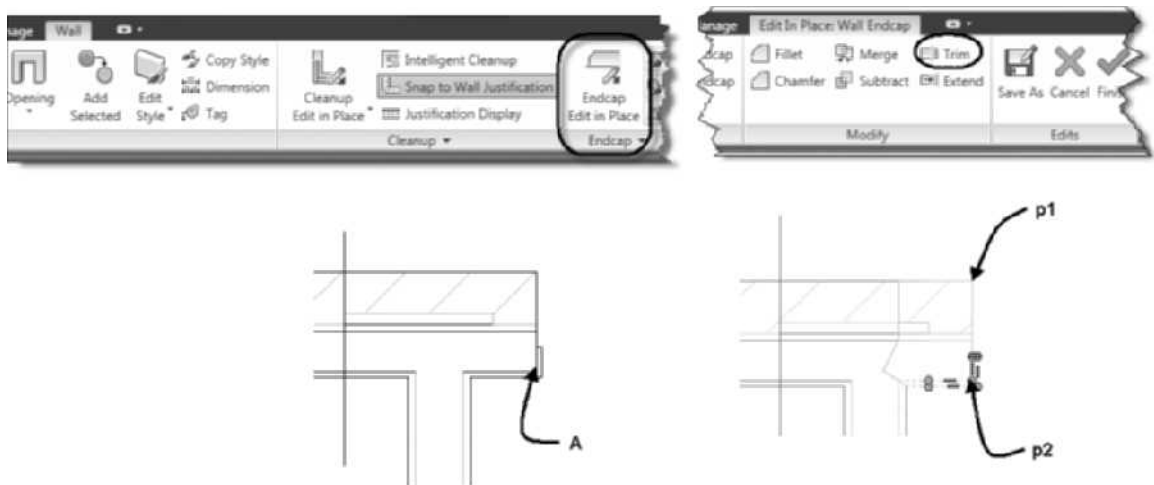

FIGURE 3.58 In-Place Edit of wall endcap style new
18. Move the cursor to point A and click to display the grips as shown in Figure 3.58. Choose Trim from the Edit In Place: Wall Endcap tab. Respond to the command prompts as follows:
Select an in-place edit profile: (Choose the endcap at p2 as shown in Figure 3.58.)